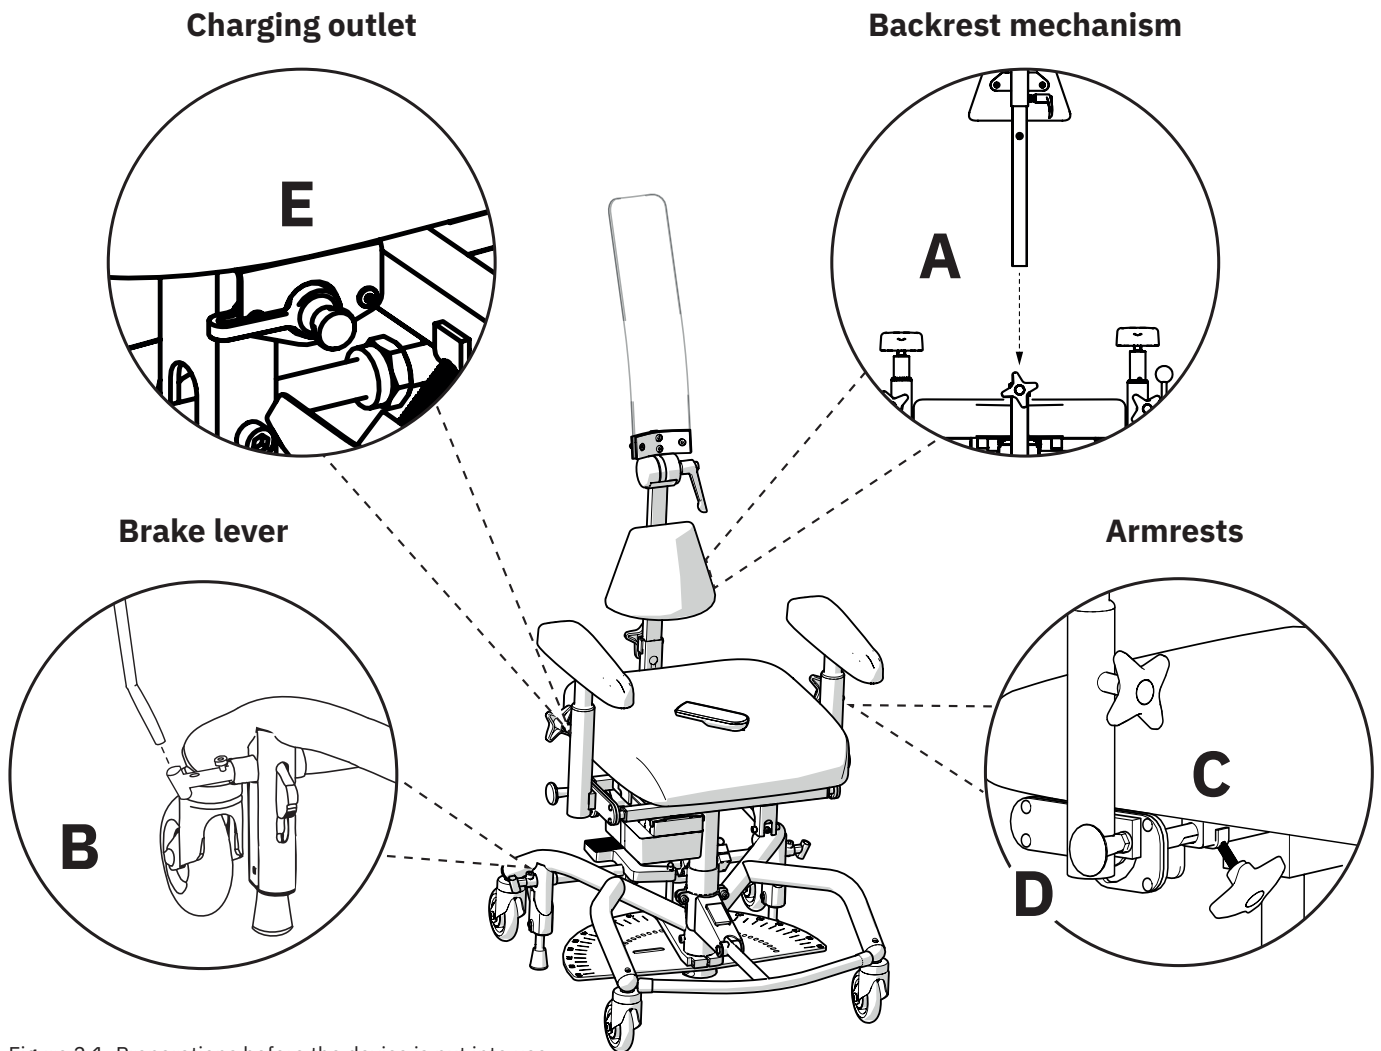

Figure 2.1. Preparations before the device is put into use.
Place the back rest support post in the back rest mechanism (B) and set the desired height level, see Figure 2.1. Tighten all levers (A). The picture shows one of the two standard back supports that come with the device. For adjusting back supports and backrest mechanisms, see 5.6. Backrest mechanism and back support.
We recommend that the brake lever not be mounted if you intend to use the foot brake. If you intend to use the handbrake function, mount the brake lever as follows: Insert the brake lever into the brake lever bracket (B) (see Figure 2.1). The brake lever can be placed on the right or left side.
Loosen the armrest controls (C) and set the desired height and width levels, see Figure 2.1. Tighten all controls (C). Make sure the knob (D) clicks into the locking position when the armrest is lowered. If the knob does not click in position, rotate the knob until it clicks firmly.
Before initial use, activate and/or charge the battery. This is done by connecting the battery charger to the device's charging outlet and to a wall outlet (E), see Figure 2.1. The charging outlet can be placed in different places on the device. The device is usually delivered with the charging outlet mounted at the rear edge under the seat.